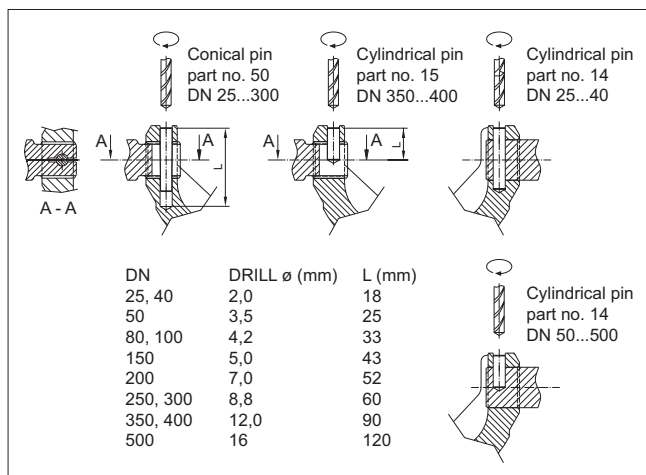

Fig. 22 Drilling the pin, R1L and R2_S
- Remove the pin lockings either by grinding or using a spindle. Detach the pins (14 and 15) by drilling, Fig. 22. Be careful not to damage the original bores. Note! The pins and the drive shaft have been secured by welding in the titanium version and in the acid-resistant high-consistency version S.
- Please note the depth of the hole (L) for the conical pin (Fig. 22). Put the pins (14, 50) in their places and lock them. Both pins are locked with TIG welding in the high-consistency acid-resistant version and in the standard and high-consistency titanium versions. Moreover, the drive shaft is welded to the segment in the high-consistency versions. Contact the manufacturer for more information.
- Install the blind flange (10) with gaskets (19), tighten the bolts (26), see Table 2.
- Install the gland packing (20) and retainer plates according to Section 4.2.